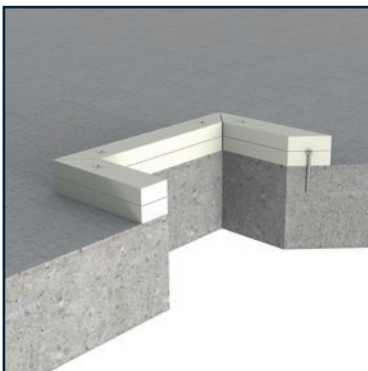

Fig. 1
- A** If the thickness of the solid wall or floor at the penetrations is less than the required minimum injection depth, cladding (see Fig. 3) or frame (see Fig. 1 & 2) of flammable gypsum boards, silicate or calcium silicate boards (class A2-s1, d0 or A1 according to EN 13501-1) must be fitted in the seals on the construction. This allows the Multifoam 2K to be injected over the minimum required injection depth.
- A** If the thickness of the lightweight partition at the penetrations is less than the required minimum injection depth, a cladding (see Fig. 3) or frame (see Fig. 1 & 2) of flammable gypsum boards, silicate or calcium silicate boards (class A2-s1, d0 or A1 according to EN 13501-1) must be fitted in the seals on the construction. This allows the Multifoam 2K to be injected over the minimum required injection depth.